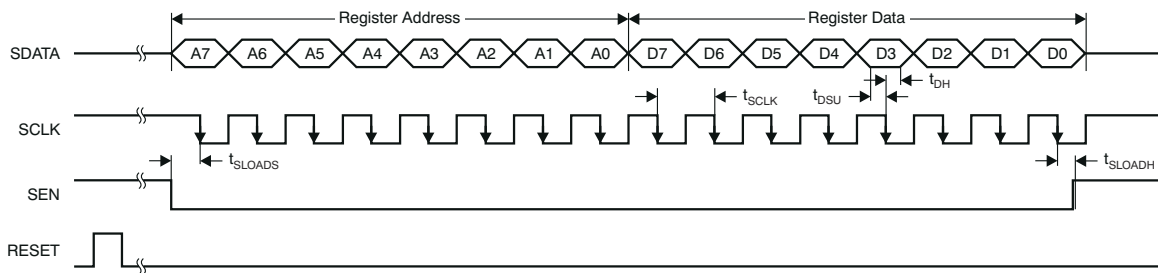

图 8-17. Serial Interface Timing
1. Either through hardware reset by applying a high pulse on the RESET pin (of width greater than 10ns), as shown in 图 8-17; or